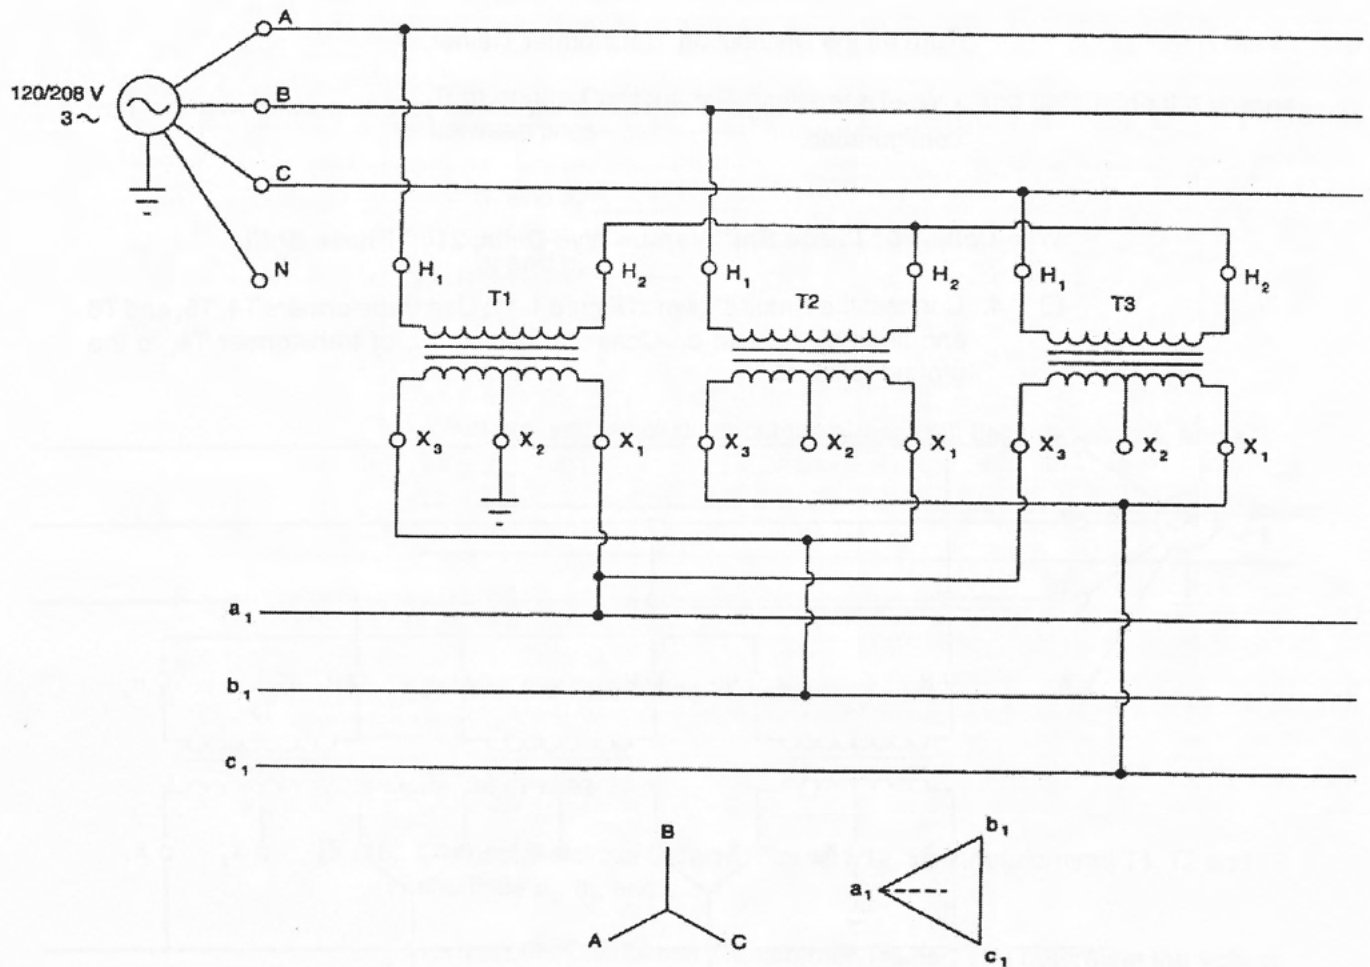

Figure 1-10. Wye-delta, 30° phase shift.
- ☐ 13. Connect the circuit shown in Figure 1-10. Use transformers T1, T2 and T3 and lines a_1 , b_1 , and c_1 . Connect bushing X_2 of transformer T1 to the ground terminal.